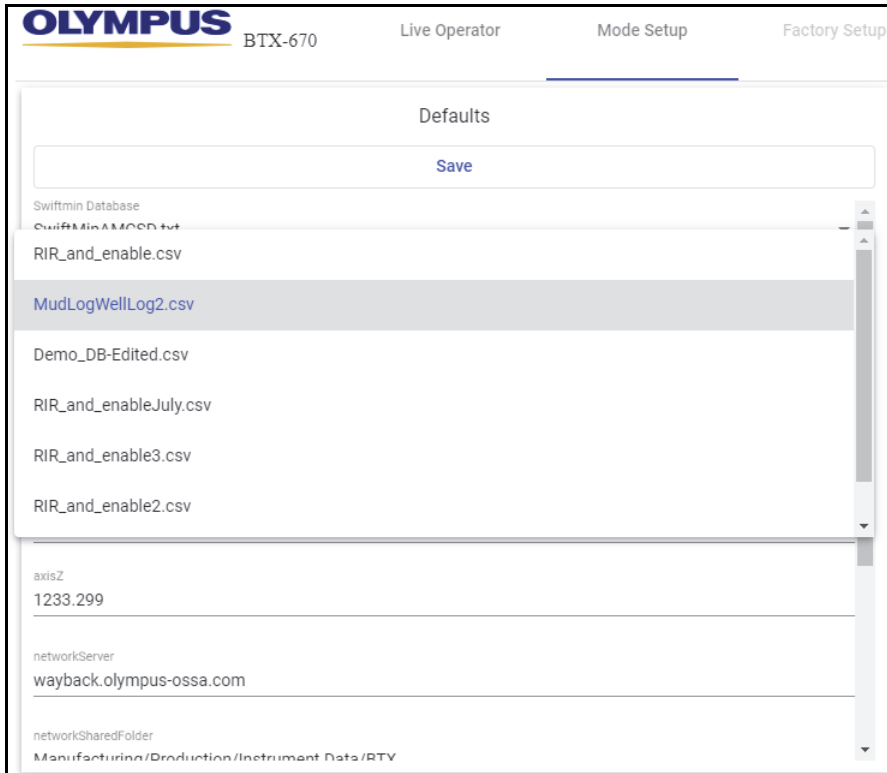

Figure 5-11 Changing the default database
1. Click on a default database and select a different database (see Figure 5-11 on page 77).